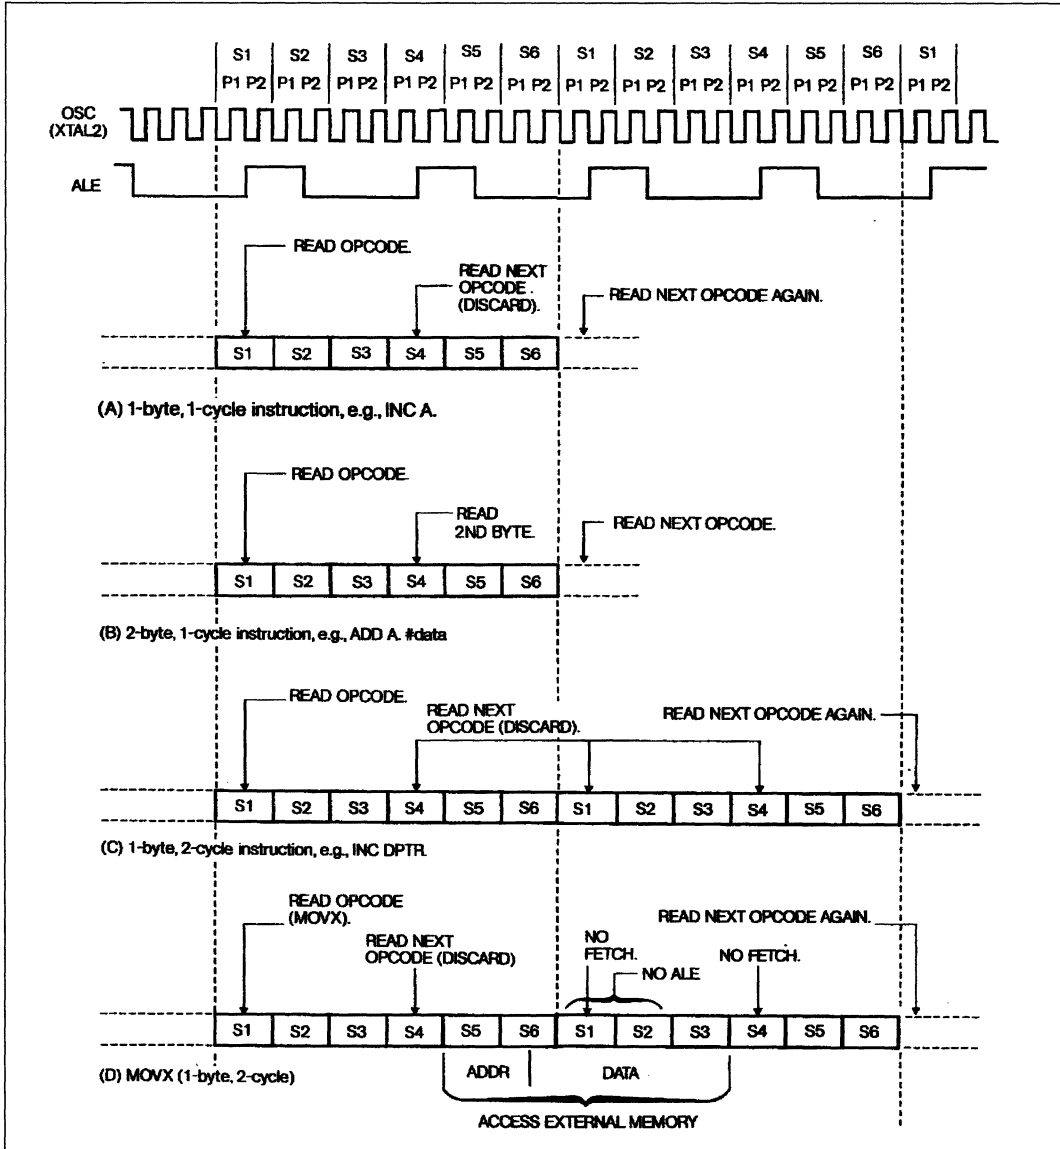

Figure 15 : State Sequences in MHS C51.
Each state is divided into a Phase 1 half and a Phase 2 half. Figure 15 shows the fetch/execute sequences in states and phases for various kinds of instructions. Normally two program fetches are generated during each machine cycle, even if the instruction being executed doesn't require it. If the instruction being executed doesn't need more code bytes, the CPU simply ignores the extra fetch, and the Program Counter is not incremented.
The MOVX instructions take two machine cycles to execute. No program fetch is generated during the second cycle of a MOVX instruction. This is the only time program fetches are skipped. The fetch/execute sequence for MOVX instructions is shown in Figure 15 (D).